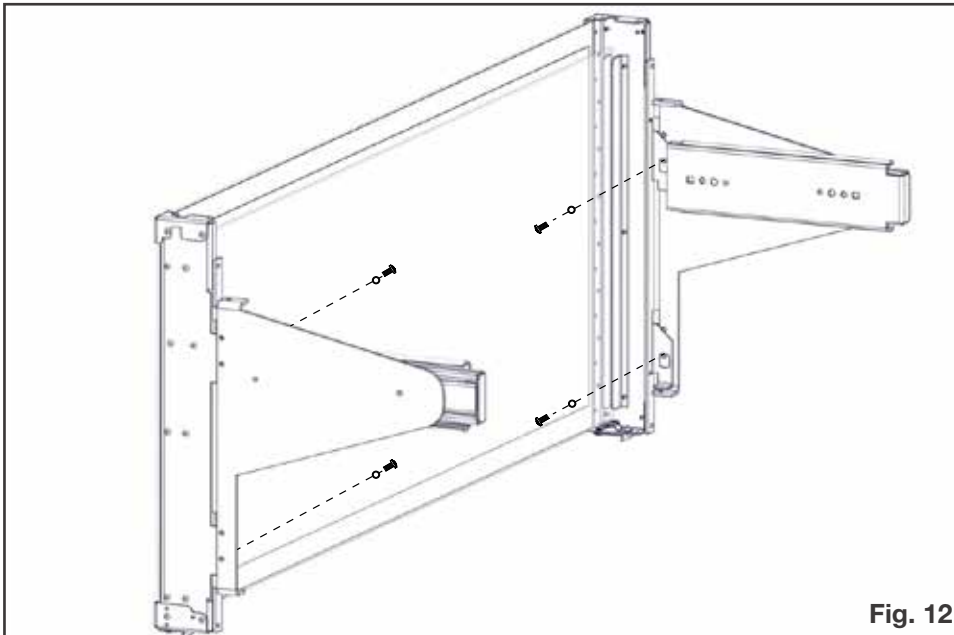

Fig. 12
9. Secure TGGA with 1 fastener and 1 washer on top and bottom of each TGGA slider bracket (total of 4) holding the TGGA tight to the TGGA slider bracket surface throughout **(Fig. 12)**. Tighten firmly enough to hold TGGA against TGGA slider bracket. Do not fully tighten until adjustment is complete and during final TGGA installation.